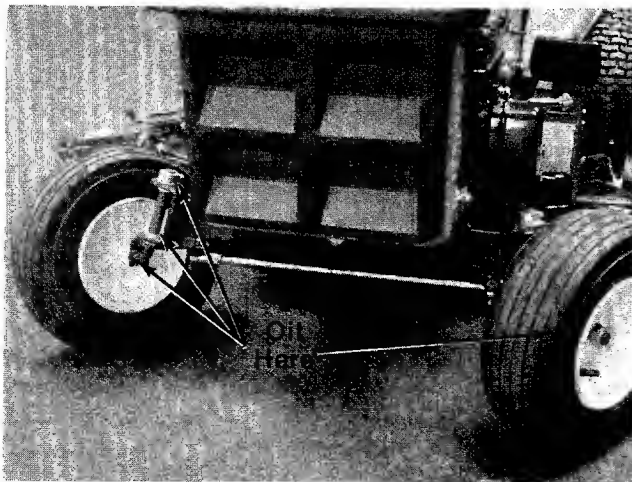

**FIGURE 13.**
After the first five hours of operating a new engine, drain the oil (see figure 13) from the crankcase while engine is still hot and refill crankcase with new oil; thereafter change the oil every 25 hours of operation. This procedure ensures minimum wear of engine parts and provides virtually trouble-free operation. To change the oil, proceed as follows:
1. With the machine on level ground, place a suitable metal container under the oil drain plug, then remove the drain plug. See figure 13.